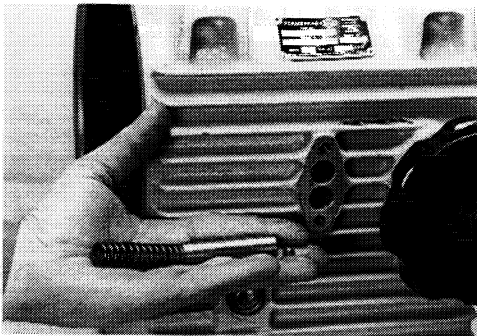

Fig. 18
Remove the spring (26), piston (27) and ball (85) from each bore (Fig. 18).